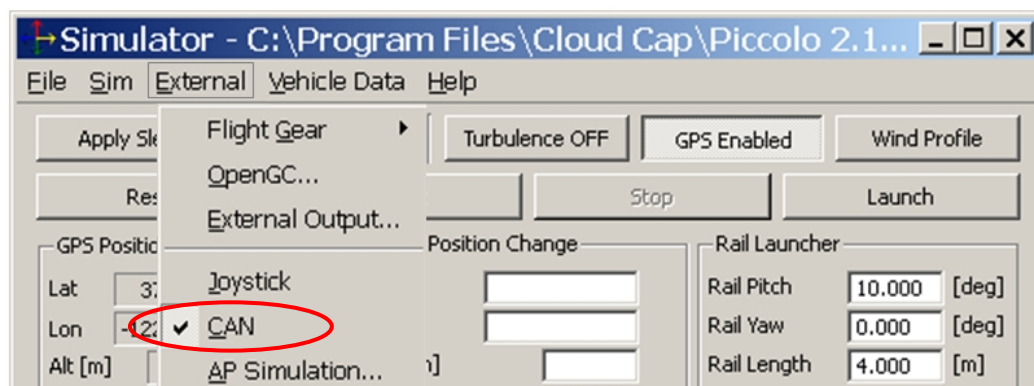

Figure 30 - CAN
- ☒ Open the **External** menu and verify that **CAN** is checked (**Figure 30**). If it is not checked, it means the Simulator cannot find the CAN module.